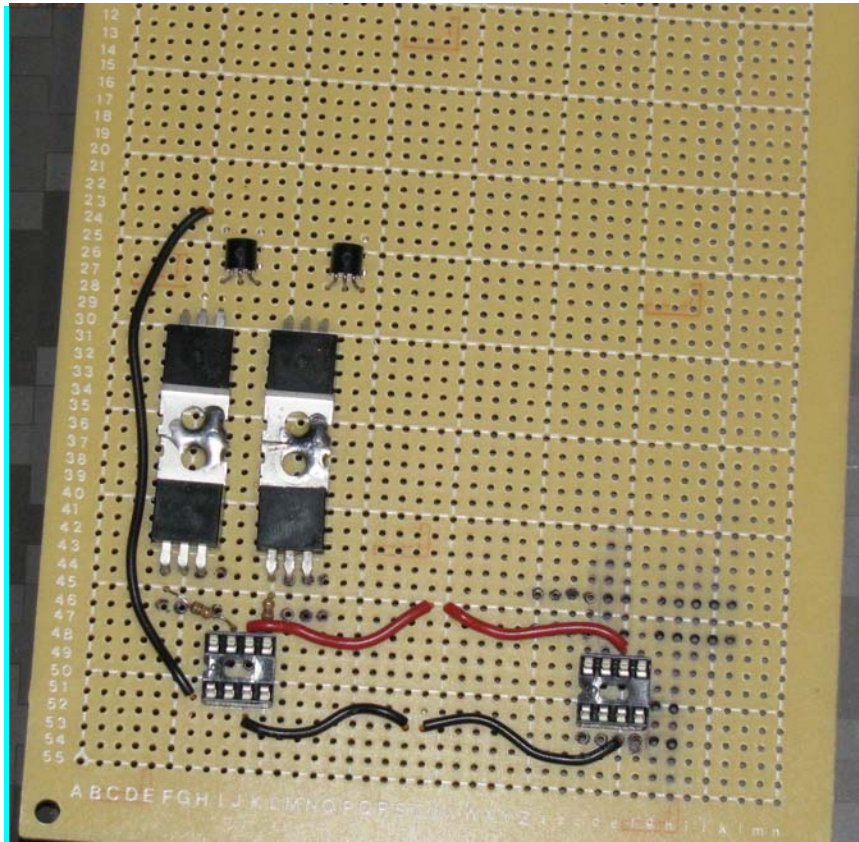

Figure 5-6. All of the mosfets in the left H-bridge are installed—the same should be done for the right H-bridge.
3. *Install mosfets:* Repeat these instructions for each side of the motor-controller. Start by placing the N-channel power mosfets (FQP50-N06L) about 4–5 holes above the IC sockets—pin 5 (top right) of the TC4427 IC controls the lower right mosfet Gate pin, whereas pin 7 controls the lower left mosfet Gate pin. I used a 150-ohm resistor (each) between these pins and the mosfets Gate pin—these resistors are not required. Space the lower mosfets about 3–4 holes apart to give them room (you want to leave some room on the bottom to solder), as shown in Figure 5-6.
4. Next place the P-channel power mosfets directly above the N-channel power mosfets, such that their tabs can be soldered together. The tab of a mosfet is almost always tied to the center pin (drain) of a TO-220 mosfet. By soldering the corresponding P and N channel mosfets drain tabs together, there is no need to connect the center pins of the mosfets beneath the PCB (you can even clip them off), though I soldered them to the PCB pad to help hold the mosfet in place. The motor terminal wires are soldered directly to these tabs (see Figure 5-6).